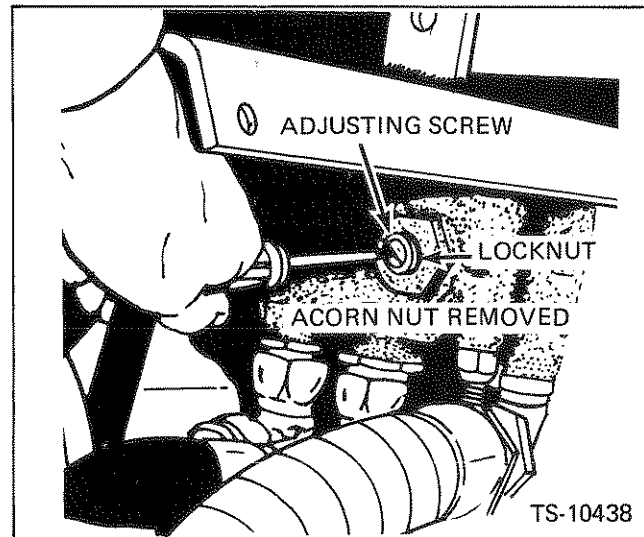

Fig. 11-2. Adjust Pressure — Main Relief Valve
5. Put the machine into a full left hand turn and hold the lever in the full turn position. The gauge should register 1,600 p.s.i. at 2,000 rpm. If not, adjust the main relief by removing the acorn nut, loosening the jam nut and adjusting the set screw located on the right hand side of the main control valve assembly until 1,600 p.s.i. registers on the gauge. Fig 11-2
8. Put the machine into a full left hand turn and hold. Re-adjust the main relief pressure on the steer and blade control valve to 2,200 p.s.i. at 2,000 rpm. Fig. 11-2 and 11-3. Release the control lever.